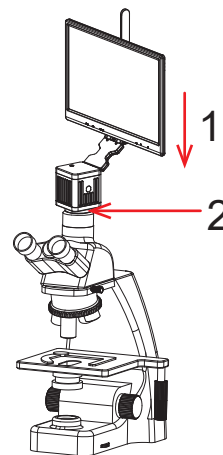

Figure 12
- (2) Snap the camera onto the dovetail slot or screw it onto the standard C -mount of the microscope, oriented as in Figure 12; tighten the fastening screws on the dovetail slot of the microscope, fix the camera on the microscope.